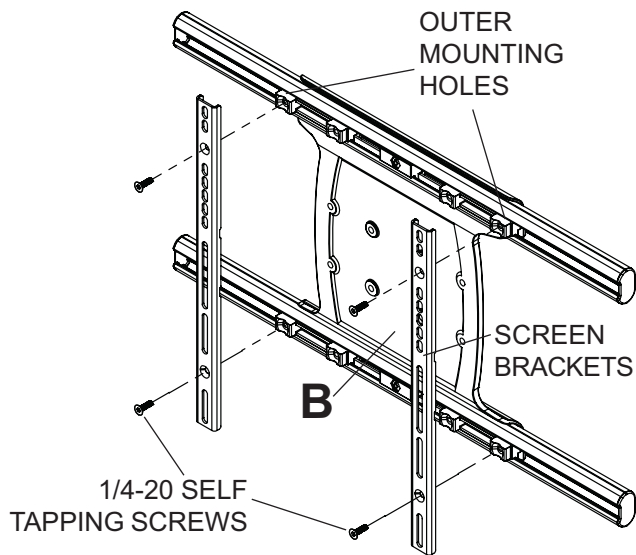

fig. 4.1
- 4** Remove four 1/4-20 x .6" screws using 5 mm allen wrench (I) and loosen two 1/4-20 x 1.25" screws 1/2 turn to allow for screen bracket adjustment.
- 4-1** Remove four 1/4-20 self tapping screws to detach screen brackets from outer mount holes of universal adapter bracket (B) using 5 mm allen wrench (I) as shown in figure 4.1. Reinstall four 1/4-20 self tapping screws to secure screen brackets to inner set of mounting holes on universal adapter bracket (B) as shown in figure 4.2.